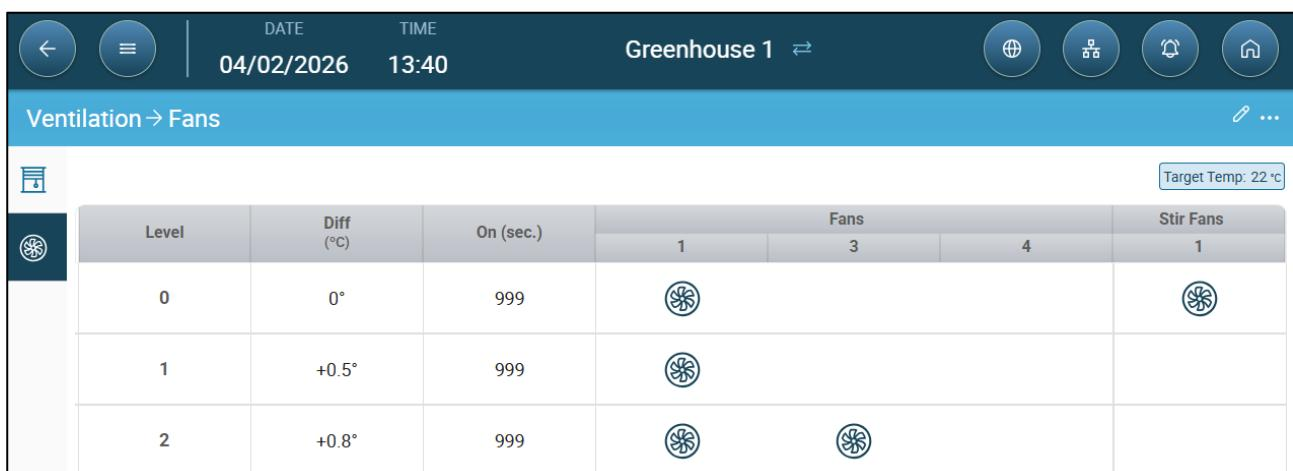
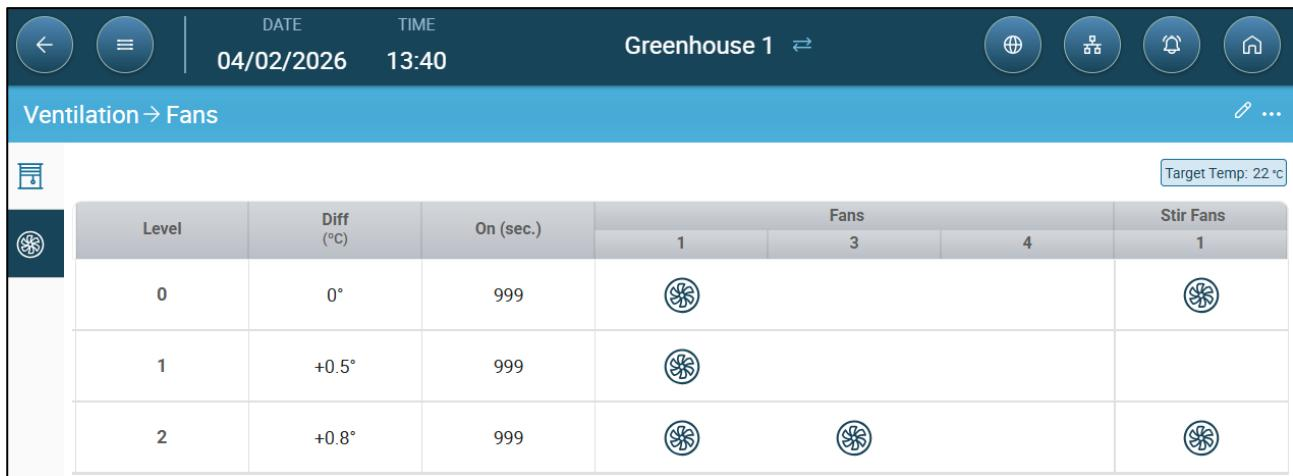

Figure 3: Change in Exhaust Fan – Stir Fan Stops Working
Figure 4: Change in Exhaust Fan – Stir Fan Continues Working
- As the level of ventilation rises, the stir fan operates until there is a change in the exhaust fan configuration. At that point, the stir fan must be redefined or it will stop operating. In Figure 3, The stir fan operates at Level 0 and Level 1. At Level 2, when the exhaust fan configuration changes, the stir fan stops operating. Figure 4 illustrates how to define the stir fan to ensure continuous operation.